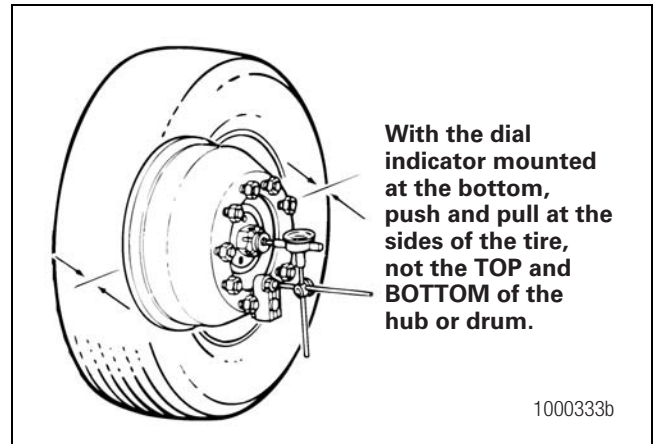

Figure 8.1
Adjust the dial indicator so that the pointer is against the center of the knuckle. Set the dial indicator on ZERO. Figure 8.1.
6. Measure the end play by pushing and pulling on each side of the hub or drum while looking at the indicator. The end play is the total travel observed. Do not push or pull at the top and the bottom of the hub or drum, which can affect the end play measurement. Figure 8.1.